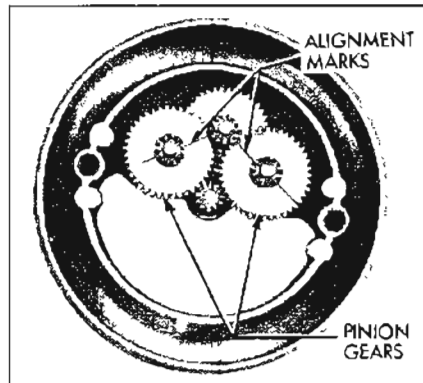

Figure 11-17—Alignment of Gears
**NOTE:** Exercise care not to bend the drive disc or burr the edges of the channel. If it is necessary to remove drive body from motor of motor drive unit to take out a broken nylon reed from storage cup, care must be used to prevent pinion gears (see Figure 11-17) from falling loose. If for any reason the gears fall out or have been removed, it will be necessary to realign them. This is done by positioning the right and left pinion gears so that the mark on each one points at the center of the pinion shaft of the drive gear which receives the motor pinion.